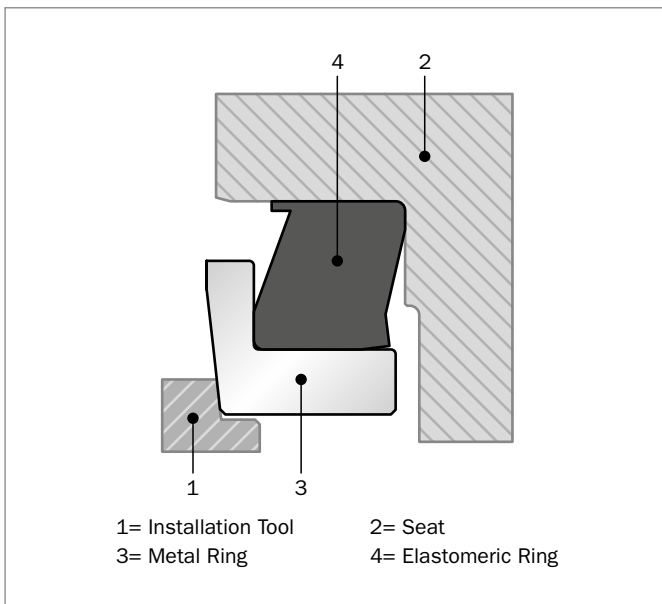

Figure 193: Installation Tool for DF Type
- Assemble each half on the seal into the house using an installation tool (Figure 193). Use a uniform load over the tool to push the half group in to the housing until the elastomeric ring reaches the house bottom. The installation tool has to only touch the inner part of the metal ring close to the Inner Diameter and far from the lapped surfaces. If you have any doubts or suggestions, please contact your local Customer Solution Center.
- Adjust the gap (S) with a slow assembly speed (e.g. 2 mm/sec).